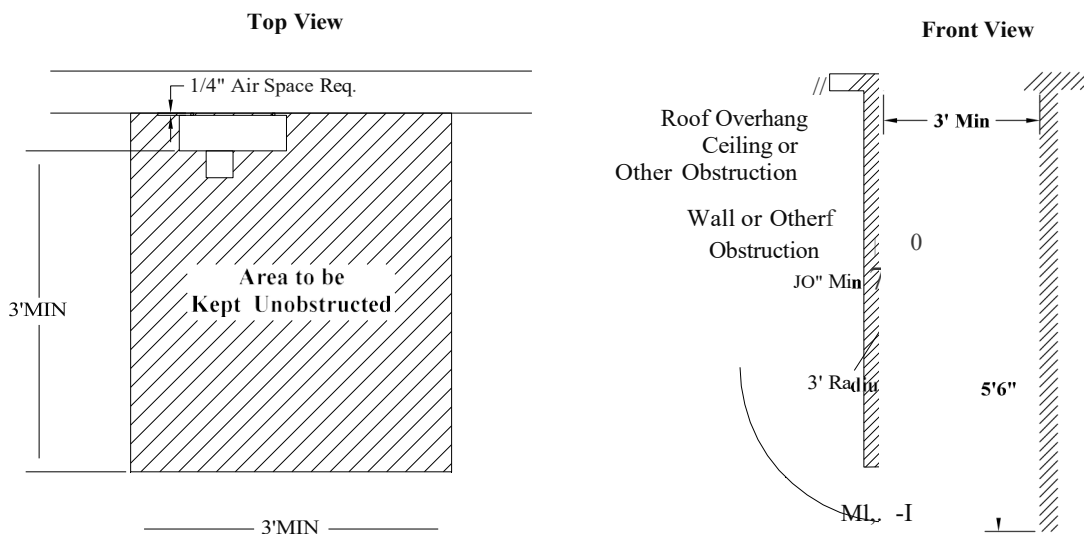

Figure 5-2.1- Minimum Clearances around Meters
- b. Clearances must be at least as shown in figure 5-2.1 below: